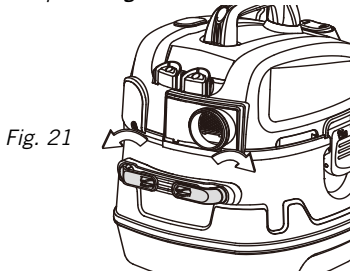

Fig. 21
34. To use the cord storage rack 5, rotate both racks outward until they click into place. Fig. 21 & 22.